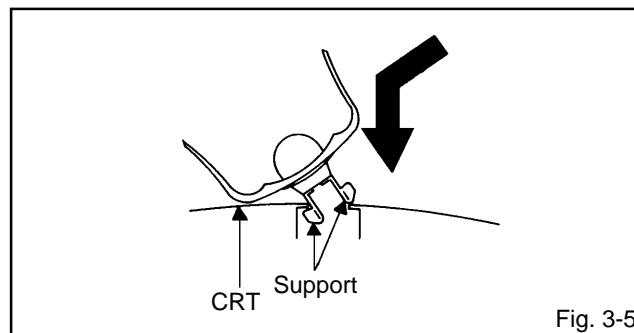

Fig. 3-5
4. Insert one end of the Anode Support into the anode button, then the other as shown in Fig. 3-5.